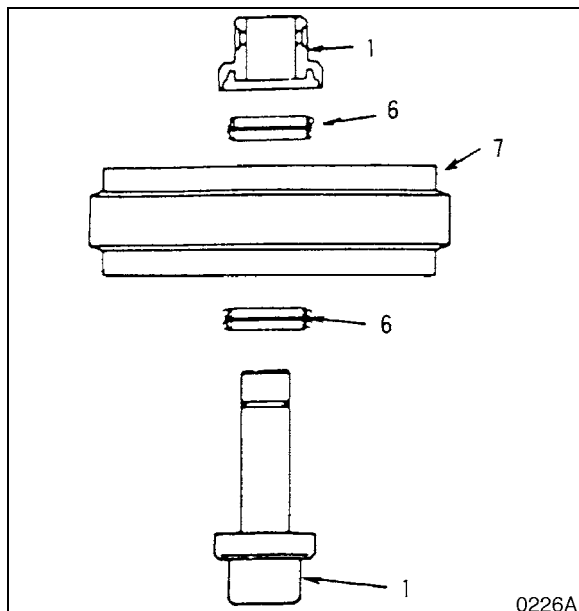

Figure 21
4. Detach the group seal (6, Figure 21) from the idler (7) and bearing (1).